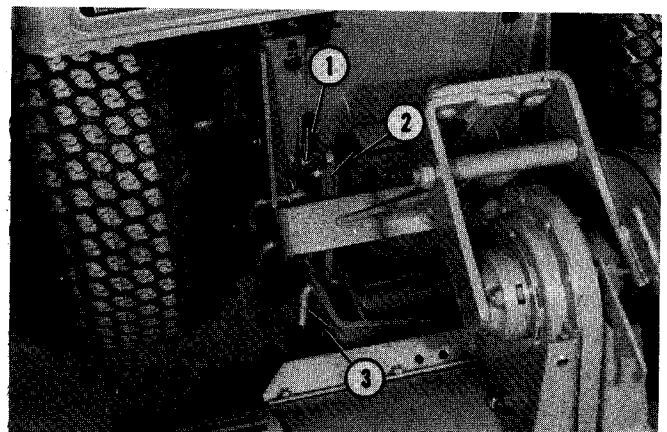

Fig. 10 - LIFT LINK INSTALLATION
9. Install lift link supplied with Tiller, as shown in Fig. 10, using long "L" pin in lower frame and 1/2" headed pin in top through rockshaft.